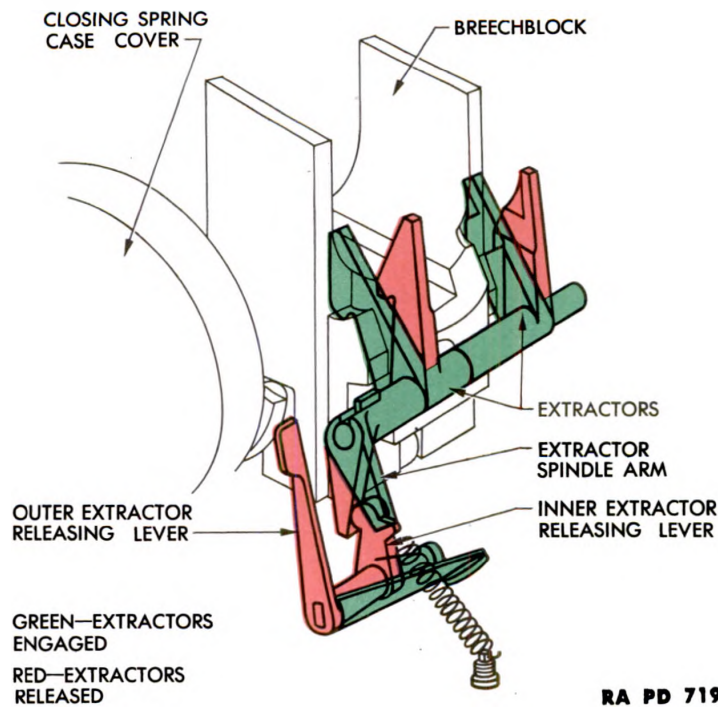
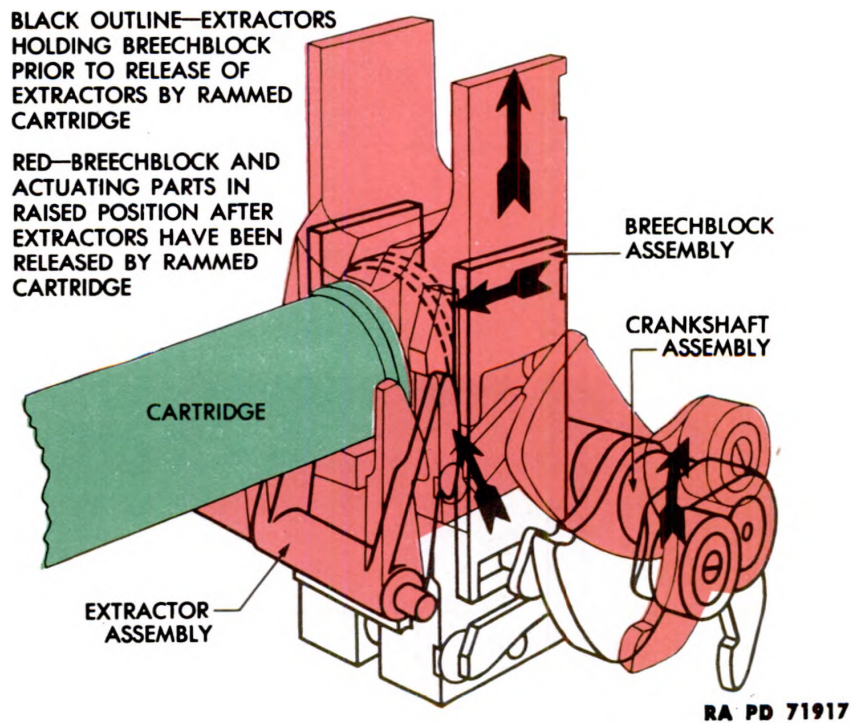

Figure 16 – Extractor Releasing Lever Assembly
Figure 17 – Extractors – Released by Cartridge Case
(1) The cartridge case extractor assembly serves two purposes: It holds the breechblock in open position until released by the outer extractor releasing lever (hand operation) or by the insertion of a round into the breech (automatic operation); it releases and ejects the empty cartridge cases from the firing chamber of the gun. The extractor assembly consists of two extractors, extractor spindle, extractor spindle arm, inner and outer extractor releasing levers, spring, and spring stud (fig. 16).
(2) When the breechblock is lowered to open the breech, the extractors are tipped backward until their hooked ends are engaged in seats on the front of the breechblock (green in fig. 16). In their engaged position, they hold the breechblock in open position. The breechblock is released manually (red in fig. 16) by rotating the outer extractor releasing lever to the rear. The breechblock is released automatically when a cartridge case is rammed into the chamber, the rim of the cartridge case rotating the extractors from their seats on the breechblock as the rim of the cartridge case drives them forward (fig. 17).
(3) The extractors release the cartridge case from the chamber by reversing the procedure illustrated in figure 17. As the extractors are rotated to the rear to engage the breechblock and hold it in open position, their upper lips press on the rim of the cartridge case with such force as to extract the case from the firing chamber and eject it through the breech casing, and out the cartridge chute.